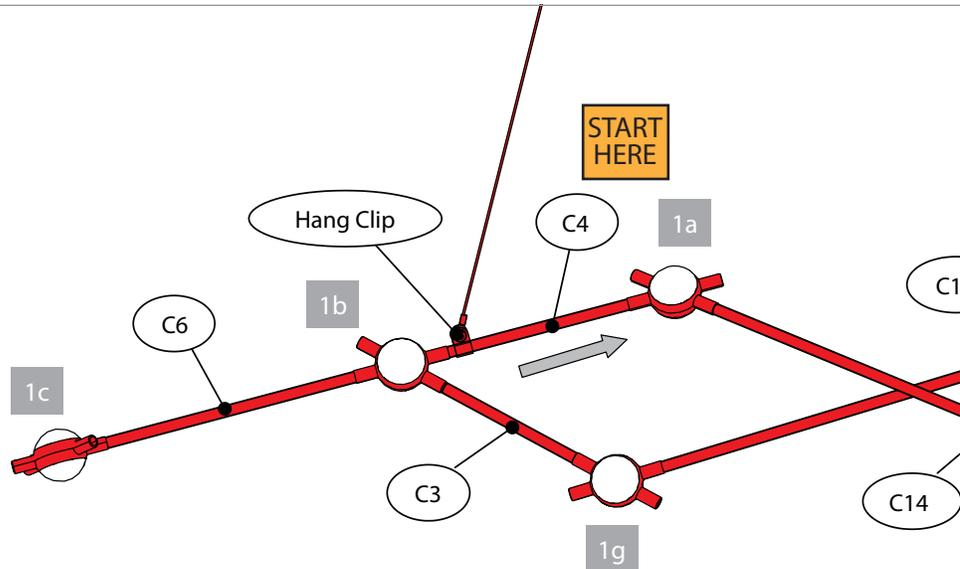

Fig. 5a - Front View
- Start by connecting the C4 Arm to a Hang Clip from Ceiling Hanger 1 (note the Hang Clip orientation in Fig. 5b) approx. ½" from one end (Fig. 5a). Connect a 45° Hub (1a) to the other end and continue by connecting the C14 Arm followed by another 45° Hub (1d). Then connect a C3 Arm and 45° Hub (1e), the C8 Arm and 45° Hub (1f), and another C3 Arm to a second hang clip from Ceiling Hanger 1 (note the Hang Clip orientation in Fig. 5b) approx. ½" from the Hub (1f) (Fig. 5a).
- Continue by connecting Arms and Hubs following the order and pattern in the Figs. 5a/5b.